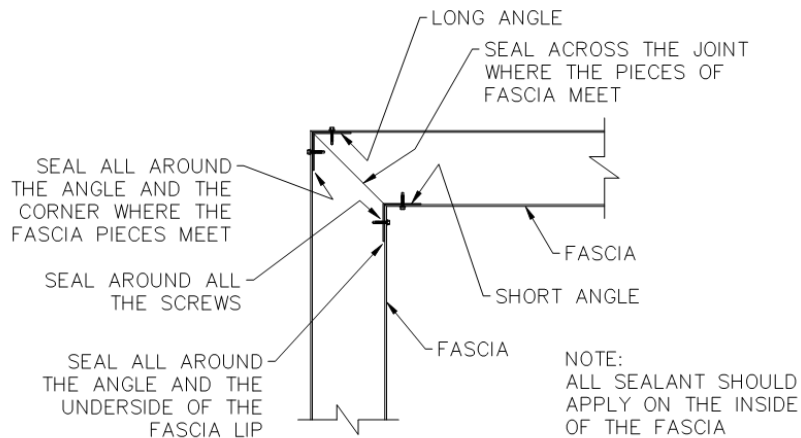

FIGURE 10
- I. Once all the fascia pieces are together, seal all around the corner angles, the screws and the edges where the two pieces of fascia touch (Figure 10) at each corner location. Also, seal all around the splices and the screws (Figure 6).